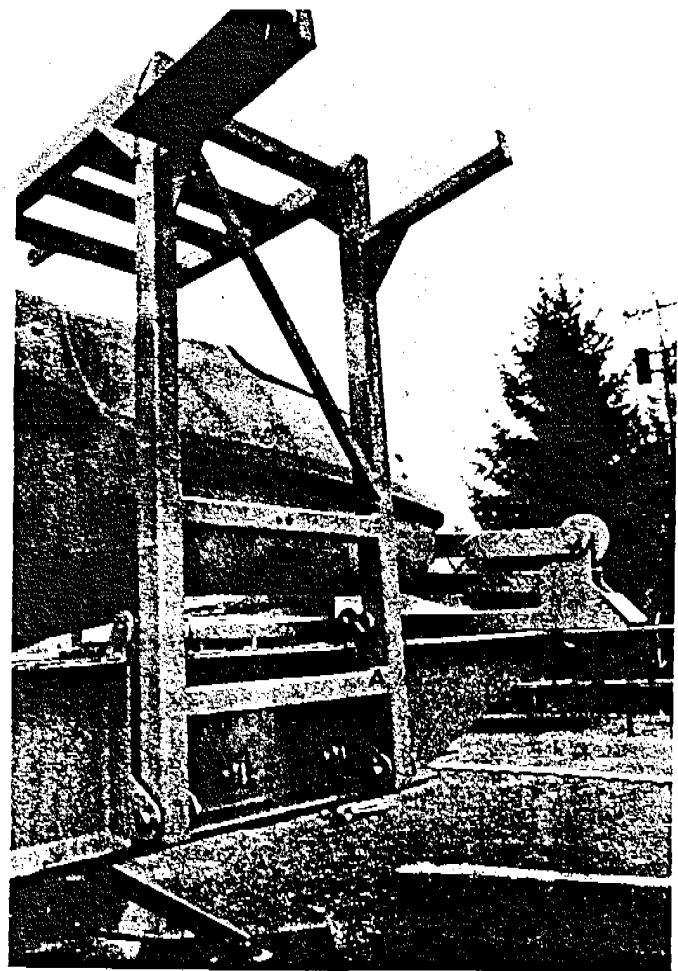

Fig. 44
- c. Raise the car rack and PIN AND KEY in place (a) (Fig. 44)
- f. CAUTION: The jib crane must be stored in a folded position and secured with bolt and nut (b). (Fig. 44)